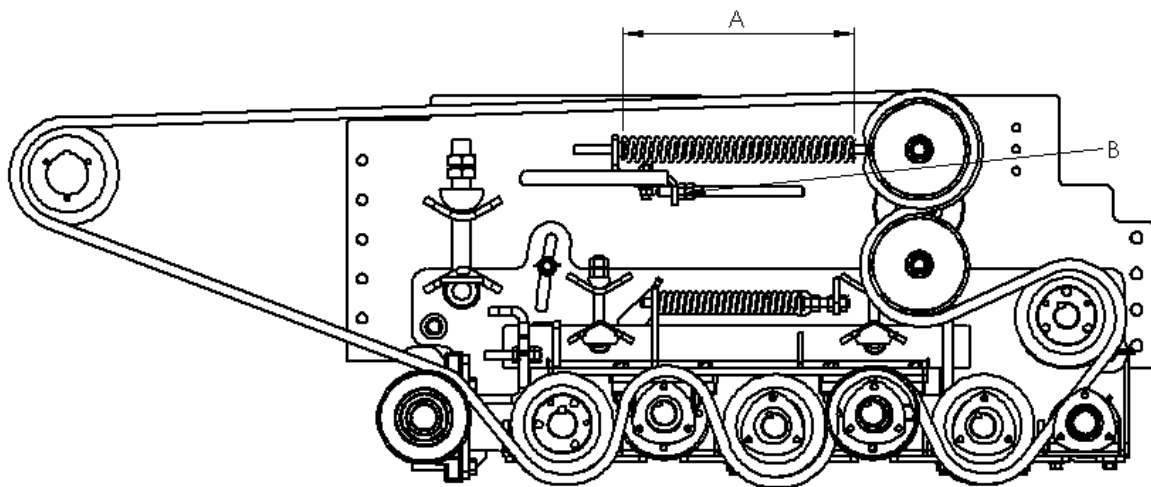

Figure 7-21: Drive Belt Adjustments
3. Adjust the nut (B), shown in Figure 7-21, until spring length (A) is 13.5 inches (34cm).
4. Lock double nuts (B).
2. Loosen nut (B), shown in Figure 7-21, until the belt is loose.
4. Tighten nut (B) until spring length (A) is 13.5 inches (34 cm).
5. Lock double nuts (B) and check the alignment of the sheaves.
7. Adjust nuts (D) to readjust rock trip spring compression (C) to 8.5 in. (21.7 cm)